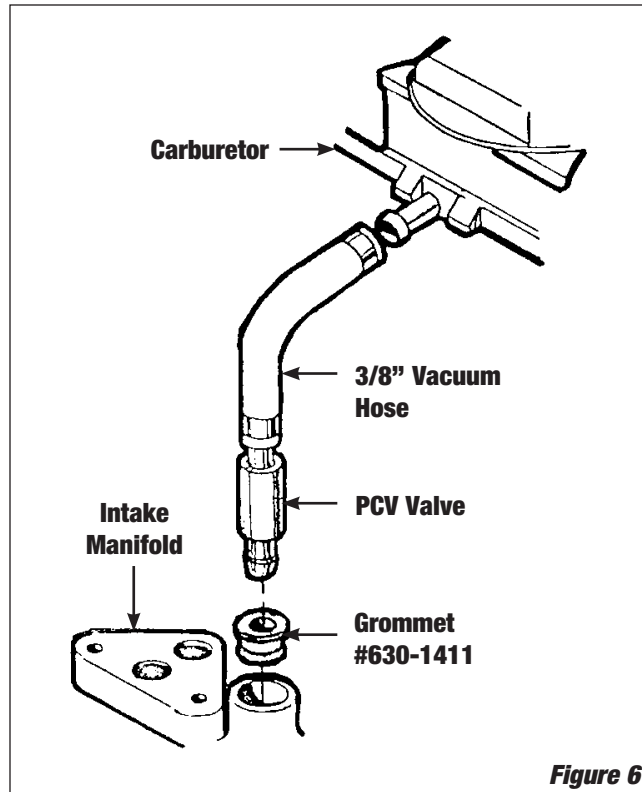

Figure 6
- **PCV VALVE:** Some engines use a PCV valve that is clamped to a hose between the carburetor and manifold. The stock AMC manifold has a 3/8" NPT pipe port at the manifold rather than a hole to accept a rubber grommet which the Edelbrock manifold uses. To re-install the PCV valve to our manifold, you may purchase a grommet from your local NAPA dealer, (#630-1411) and 10" of 3/8" vacuum hose (**See Figure 6**).